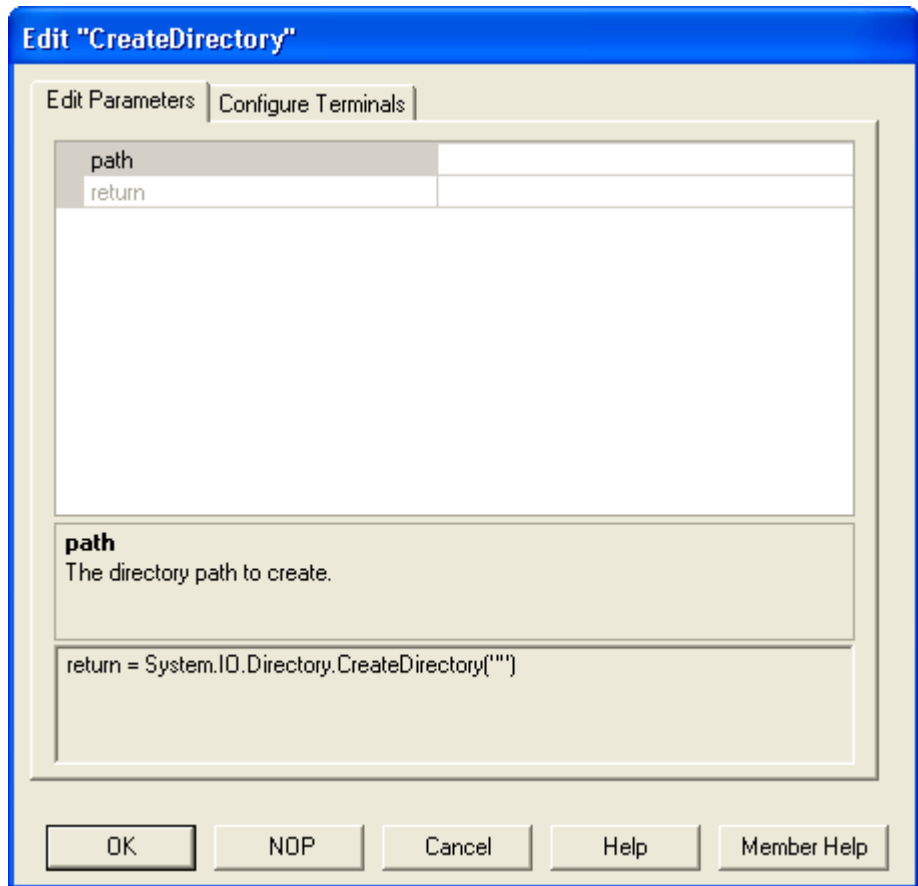

Figure 176 Edit Parameters
- 3 Double click the .NET Operation Builder to add an operation. Select the Minimum property, click **Get** and a new dialog appears. This is the dialog discussed previously and illustrated in Figure 176 on page 305.